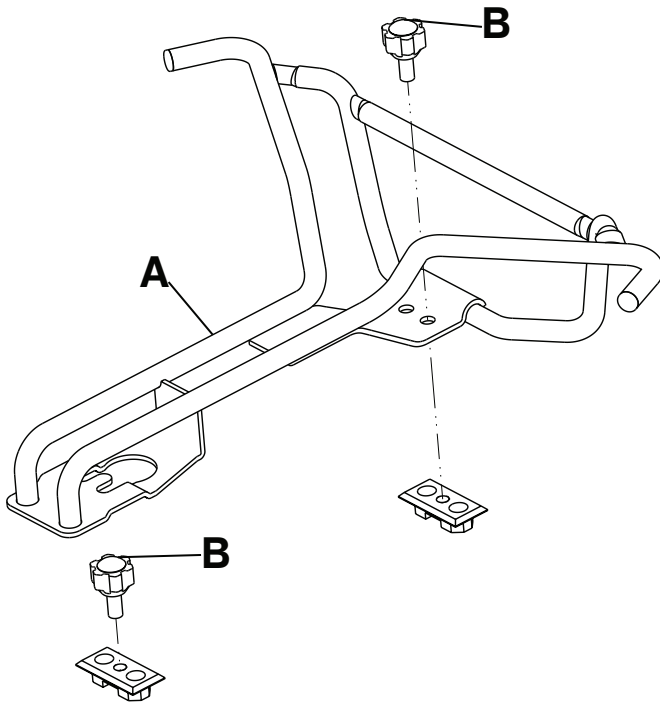

Figure 20 – Position and fasten antler over the floor plates
7. Position the antler over the floor plates and fasten the antler (A) with the red knobs (B) (Figure 20).